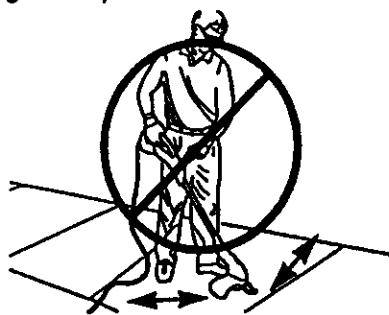

Fig. 14
7. DO NOT SWEEP WITH TRIMMER (Figure 14)